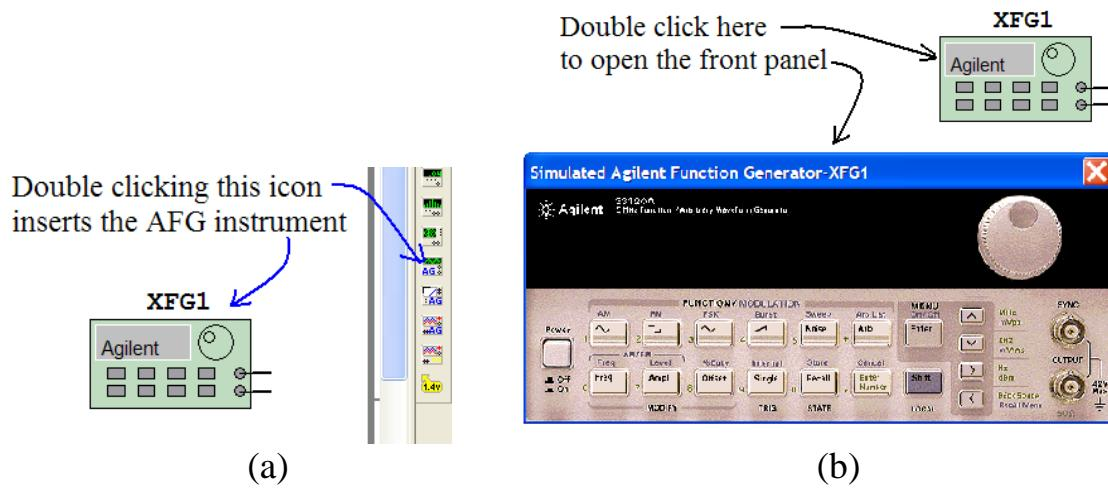

Figure 2 Running the virtual FG in Multisim.
The reader is advised to experiment with the actual **Rigol DG1022A** function generator (FG) while reading the following material. Alternatively, the reader can run Multisim on his/her computer and experiment with the *virtual* FG. This can be done by simply double clicking on the FG icon in the right hand side menu (refer to Figure 2-a). This will insert the FG instrument symbol (labeled XFG1) in the work area. Next, double clicking the inserted symbol will display the front panel of the virtual FG (refer to Figure 2-b). This Virtual FG is based on **Agilent 33120**.